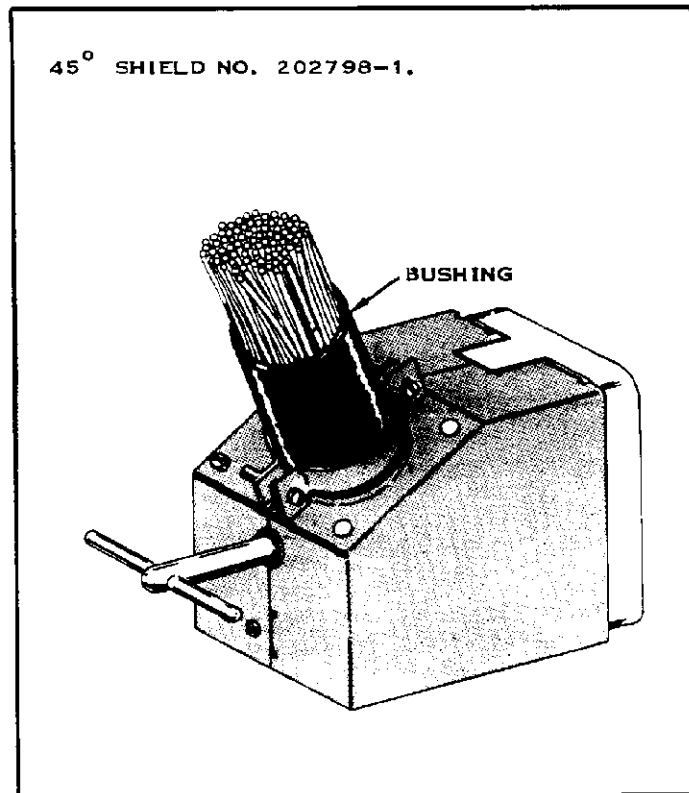

FIGURE 5
- (b) SHIELDS protect the Wires where they protrude from the rear of the Connector Block and relieve strain on the Contacts caused by free-hanging Wires. A 45° two-piece Shield for use with Male Blocks (Part No. 202799) is available. See Figure 5. These Shields should be attached to Blocks using either guide pins and sockets or four 6-32 x 3/8" machine screws.